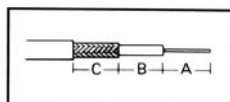
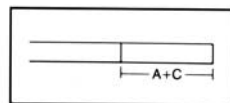

Figure 13
Figure 14
- A.** If your required strip length is as shown in Figure 13, you will choose the 2-step cassette that matches your "C"-dimension. **Mark cable** at length A+C from end (Fig. 14).